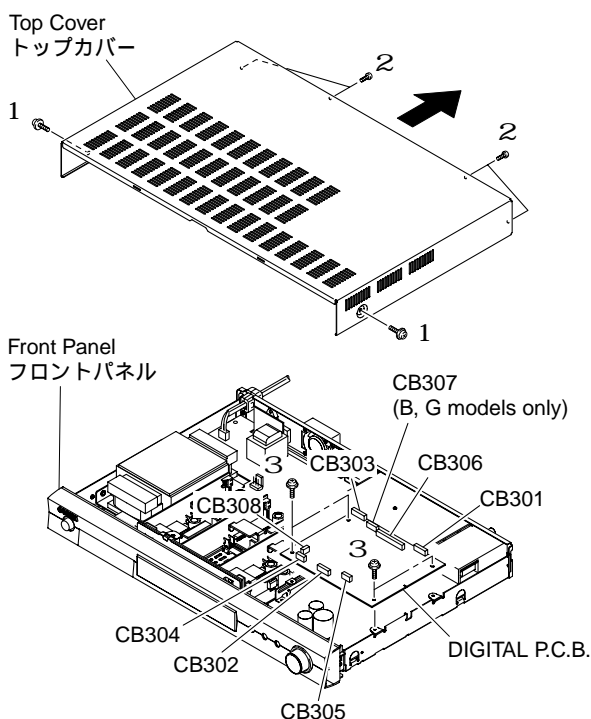
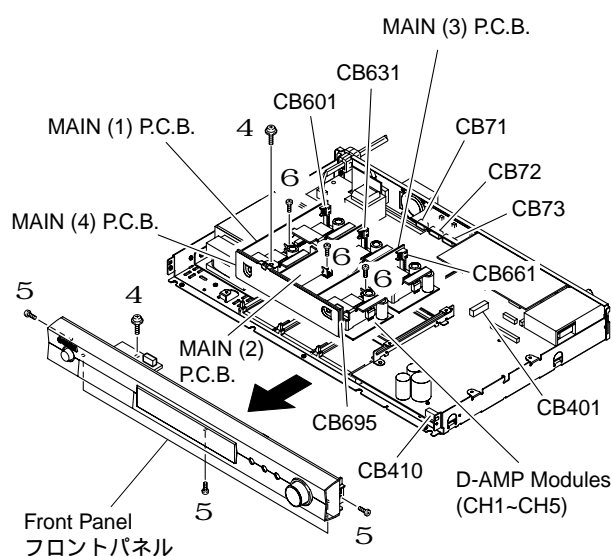
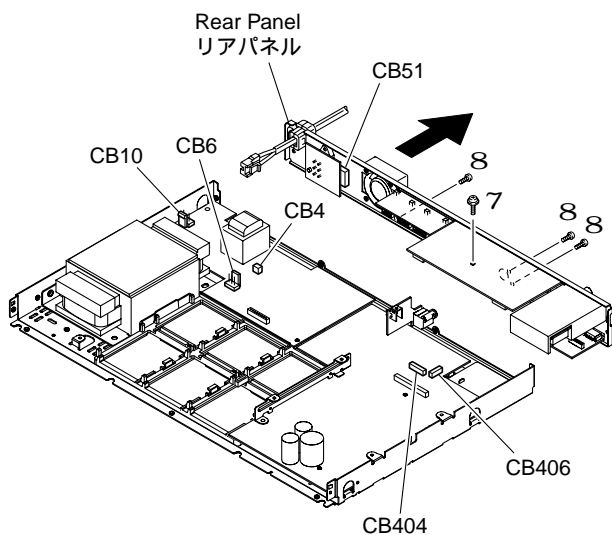
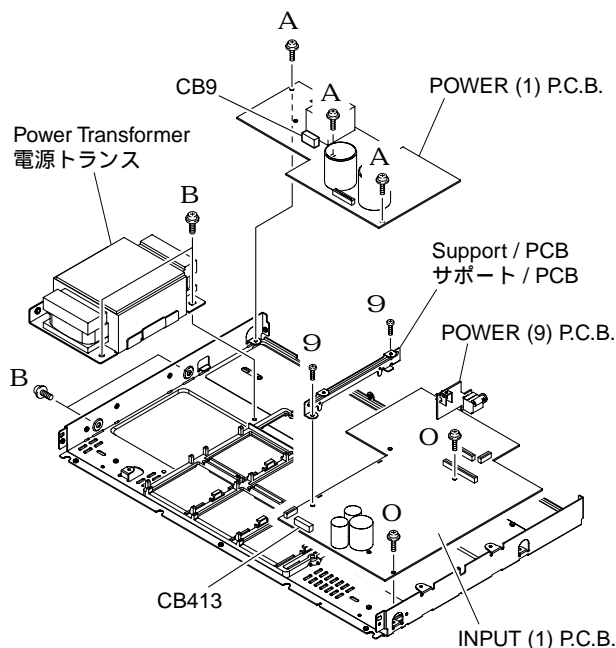

Fig. 1
Fig. 2
Fig. 3
Fig. 4
1. Removal of Top Cover (Fig. 1)
- Remove 2 screws (1) and 4 screws (2).
2. Removal of DIGITAL P.C.B. (Fig. 1)
- Remove 4 screws (3).
3. Removal of Front Panel (Fig. 2)
- Remove 2 screw (4) and 5 screws (5).
4. Removal of MAIN (1) ~ (4) P.C.B.s and D-AMP Modules
- Remove 3 screws (6). (Fig. 4)
- Remove CB71 ~ 73, CB601, CB631, CB661 and CB695. (Fig. 2)
- Remove MAIN (1) ~ (4) and D-AMP Modules leftward. (Fig. 2)
1. トップカバーの外し方 (Fig. 1)
2. DIGITAL P.C.B.の外し方 (Fig. 1)
3. フロントパネルの外し方 (Fig. 2)
4. MAIN (1) ~ (4) P.C.B.、D-AMP MODULEの外し方
- 6のネジ3本を外します。(Fig. 3)
- CB71 ~ CB73、CB601、CB631、CB661、CB695を外します。(Fig. 2)
- MAIN (1) ~ (4)、D-AMP MODULEを左方向に取り外します。(Fig. 2)
5. Removal of Rear Panel (Fig. 3)
- Remove 1 screw (7) and 3 screws (8).
6. Removal of INPUT (1) and POWER (9) P.C.B.s (Fig. 4)
- Remove 2 screws (9) and then remove the Support/PCB.
- Remove 2 screws (O).
- Remove the INPUT (1) and POWER (9) P.C.B.s.
7. Removal of POWER (1) P.C.B. (Fig. 4)
- Remove 3 screws (A).
- Remove the POWER (1) P.C.B..
8. Removal of Power Transformer (Fig. 4)
- Remove 4 screws (B).
5. リアパネルの外し方 (Fig. 3)
6. INPUT (1) P.C.B.、POWER (9) P.C.B.の外し方 (Fig. 4)